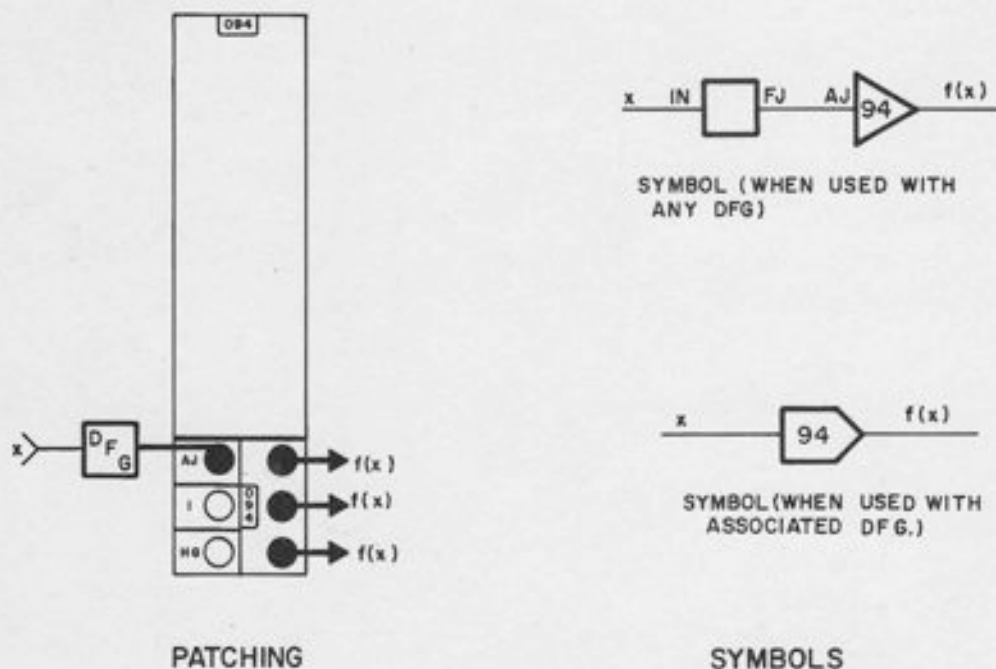

Figure 9.3. Use of the Junction Inverter as a DFG Output Amplifier
9.1.2.2 Use as DFG Output (Figure 9.3). The JI is arranged for convenient use as the output amplifier for a fixed DFG; it may be bottle-plugged to the associated FDFG or connected to any other FDFG by patchcord. Since the JI has its own feedback resistor, only one patching connection (the junction connection) is required to connect it to any FDFG designed for use with a 10K feedback; this includes the log/exponential DFG, the multiplier, and the x^2 DFG (which is one-half of a multiplier - see Chapter 11). Connection to a sine/cosine DFG requires removal of this 10K resistor, since the sine/cosine DFG uses a non-linear feedback network instead. For further information, see Paragraphs 9.2 and 9.3, and Appendix 1,
When the unit is used in the feedback path of a high-gain amplifier, the result is an exponential function. The input is through a 10K resistor (or other resistor value if "wide-range" exponentials are desired). This input may be attenuated with a pot, since its load is linear. When the DFG is used with an arbitrary amplifier, the DFG and the amplifier should be considered as separate components and drawn accordingly. When used with the associated amplifier, the two symbols may be "blended" into one, indicating that the DFG and amplifier are considered as a single component. (See Figure 9.3, and Appendix 4.)